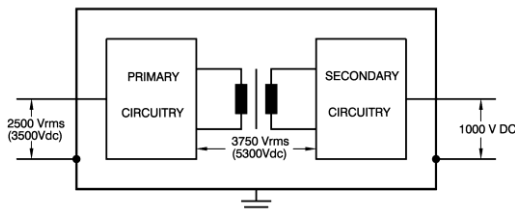

Figure 7.8: Insulation test voltages.
- The insulation of the separating components between input and output, such as transformers and opto-couplers, is tested before assembly for 1 minute at 3750 V_{RMS} (5300V_{DC}), see Figure 7.8.